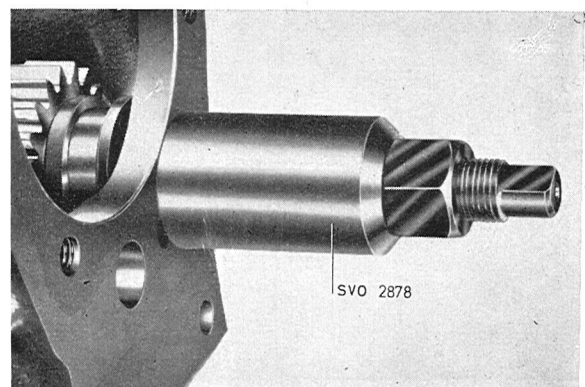

Fig. 4-28. Reverse gear removal
10. Take out the idler gear. Pull out the reverse gear shaft with puller 2878, see Fig. 4-28. Take out the reverse gear and other parts.